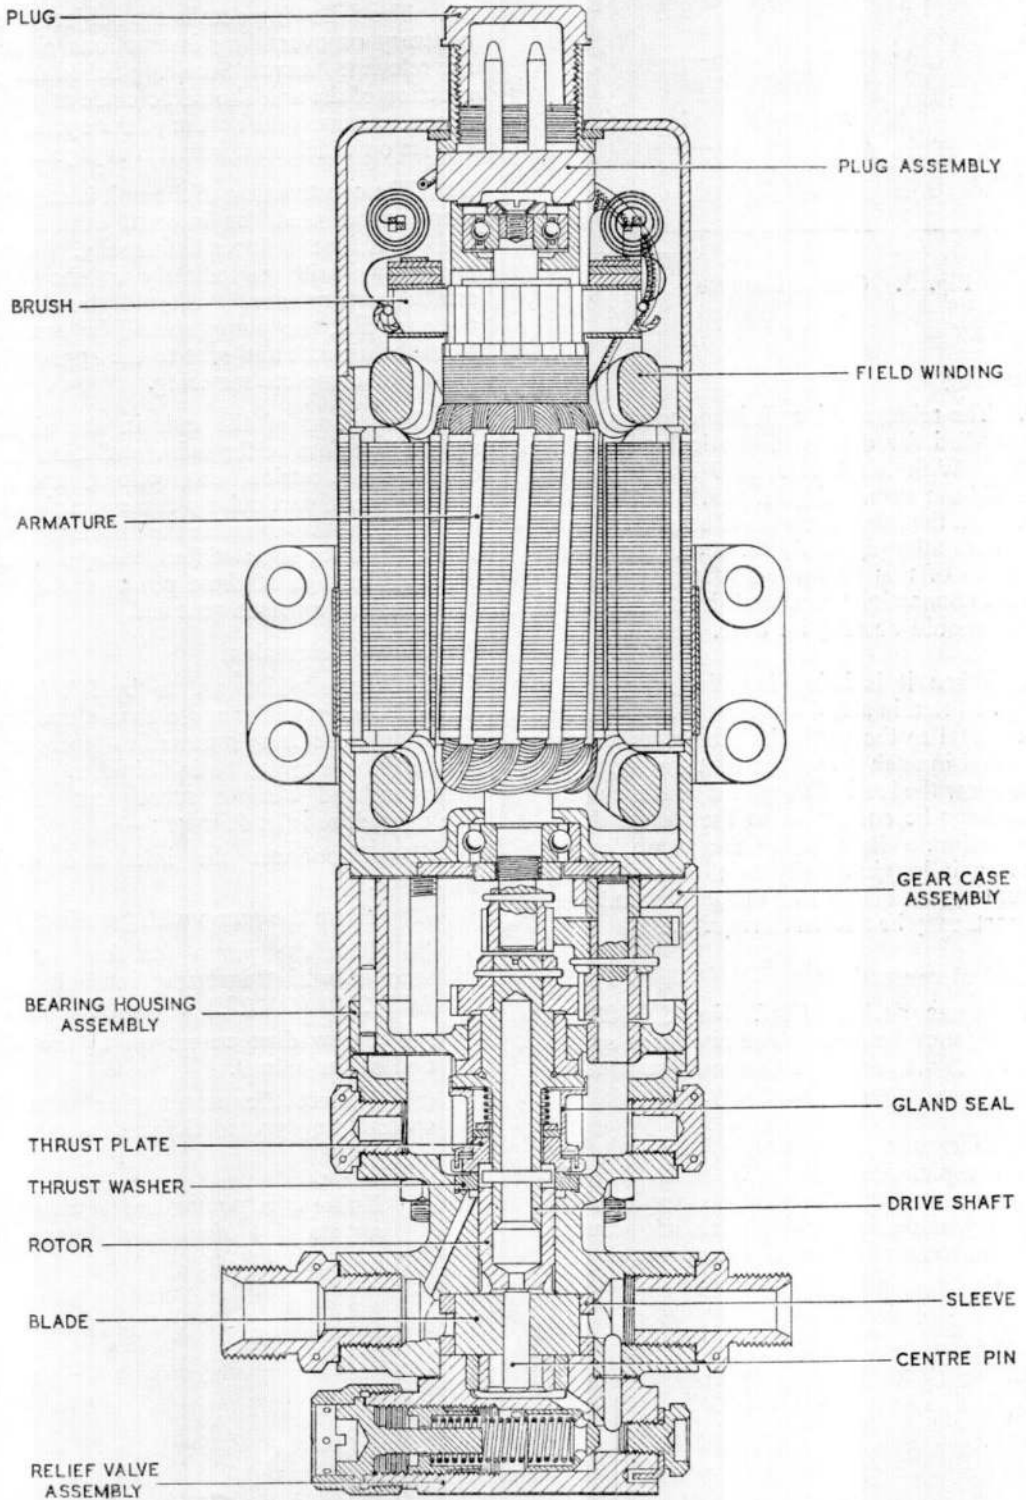

Fig. 2. Sectional view of FP 3 pump
3. Of the rotary, positive displacement type, the pump unit (*fig. 2*) consists of an aluminium housing with an eccentric bore containing a hardened mechanite sleeve. A rotor,